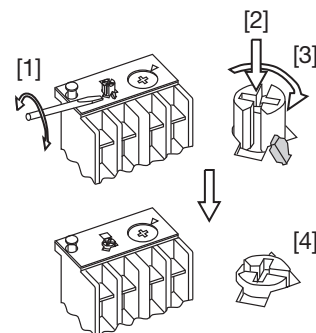

Fig. 4
##### (5) Switching from manual reset to automatic reset [Fig. 4]